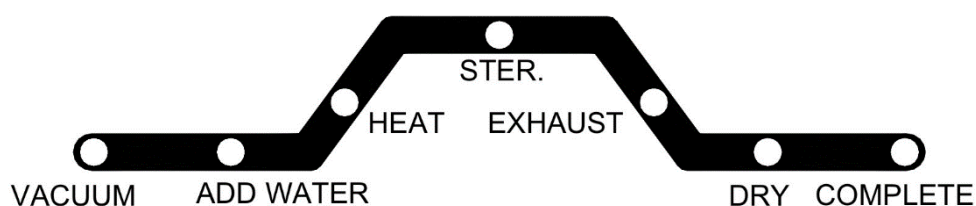

Figure 49
D. Press the START Button , the setting temperature, duration, and dry time displayed two times on the three-digit display, and then the sterilizer will automatically run through the selected program. The current progress of the sterilization cycle is indicated by the illuminated LED on the Process Status Indicator. (Figure 49)